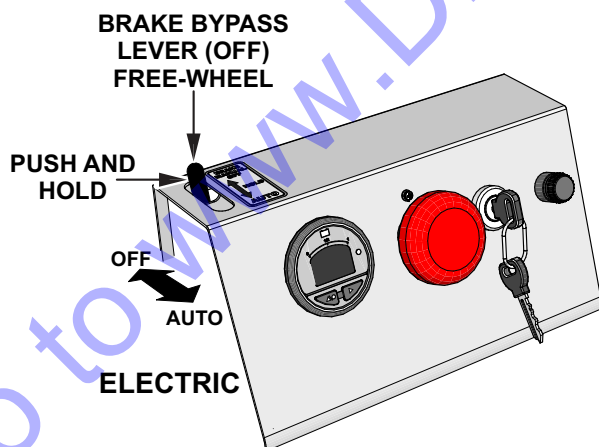

Figure 56. Brake Bypass Lever
1. **Push** and **hold** the brake bypass lever (Figure 56).